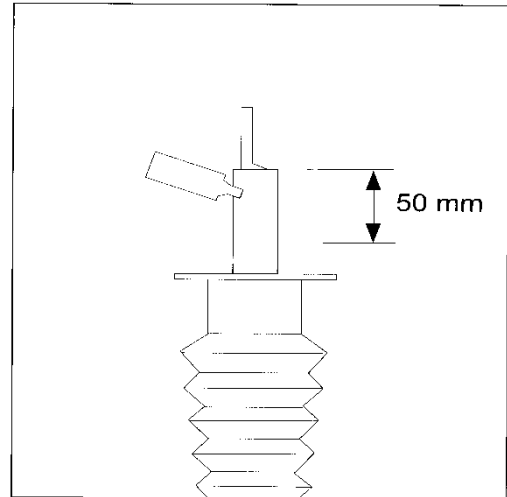

Figure 3
- 1.6 Apply a thin layer of silicon grease 50mm onto the termination; see Figure 3.
- 2.5 Apply a thin layer of silicon grease 50mm onto the termination; see Figure 3.